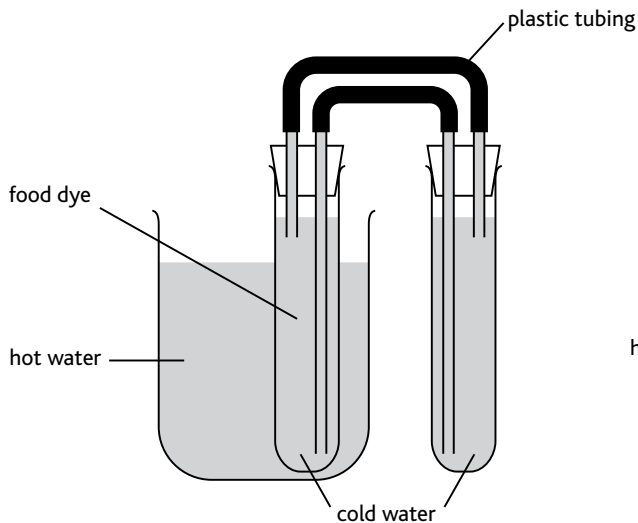
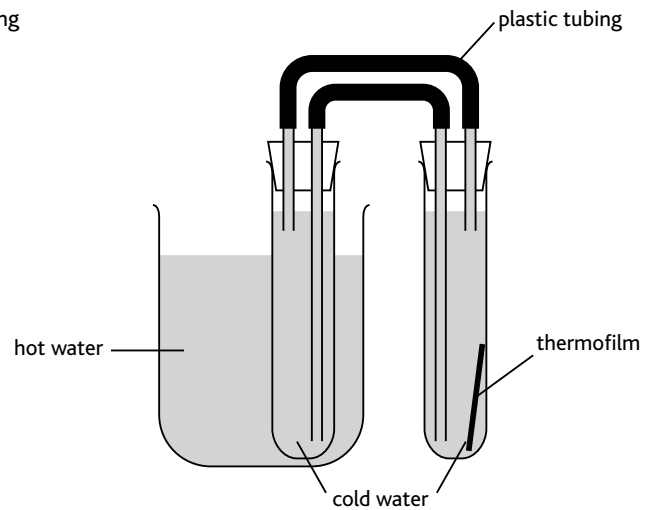

Figure 6
Figure 7
1. Thread the plastic tubing through the two bungs as shown in Figure 6 and Figure 7.
2. Place the food colouring in one of the tubes, as shown in Figure 6.
3. Place the thermofilm in the other tube, as shown in Figure 7.
7. Stand the boiling tube containing thermofilm in the boiling tube rack and the other boiling tube, containing food colouring, in a beaker of very hot water as shown in Figure 6 and Figure 7.
- ② *What is happening in the boiling tube that is in the hot water?*
- ② *What is happening in the boiling tube in the boiling tube rack?*
- ② *What is happening in the plastic tubing connecting both boiling tubes?*
- ② *What happens to the food dye?*
- ② *What happens to the thermofilm?*
- ② *What conclusions can you draw from your observations?*